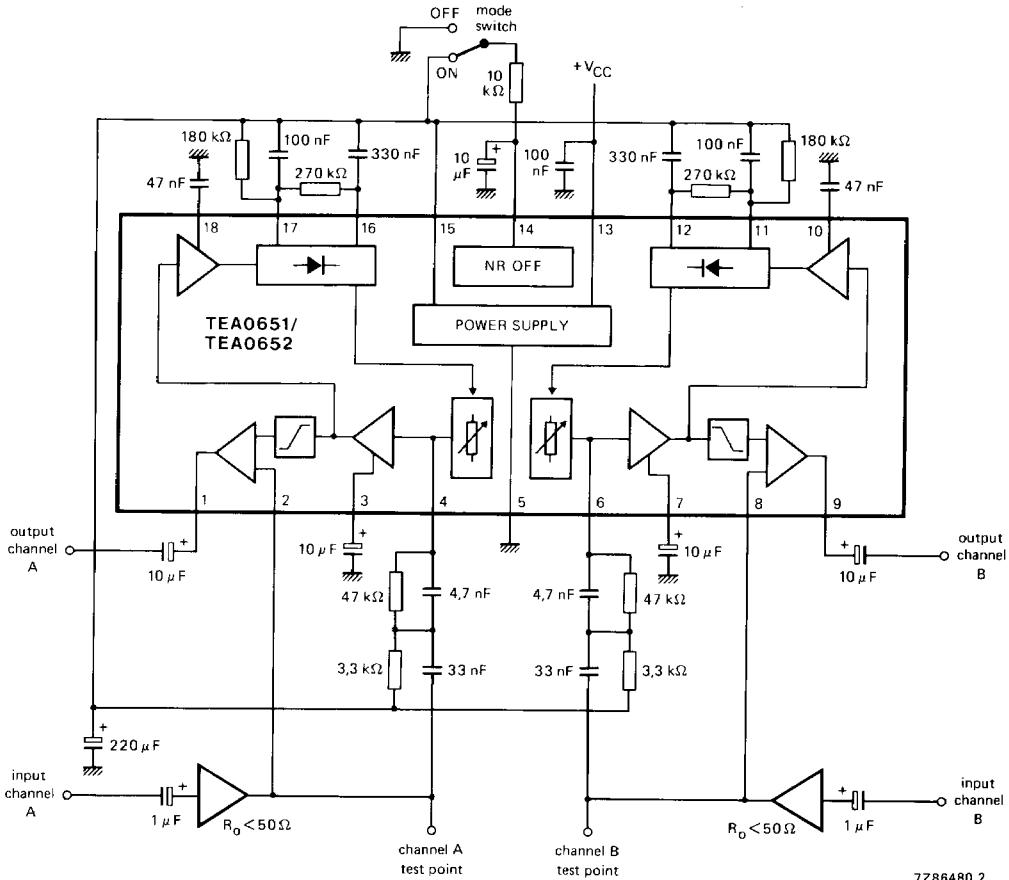

Fig. 15 Test and application circuit of TEA0651/TEA0652 for stereo Dolby B application, shown in encode mode.
1. Voltage gain is $20 \log \frac{\text{voltage at pin 1 (9)}}{\text{voltage at pin 2 (8)}}$.
3. Test circuit Fig. 15, reference level at channel A and channel B test point.